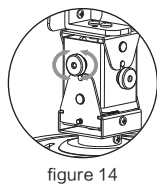

figure 14
1. Horizontal adjustment: rotate the adjusting button (3-2) for horizontal angle, figure 14